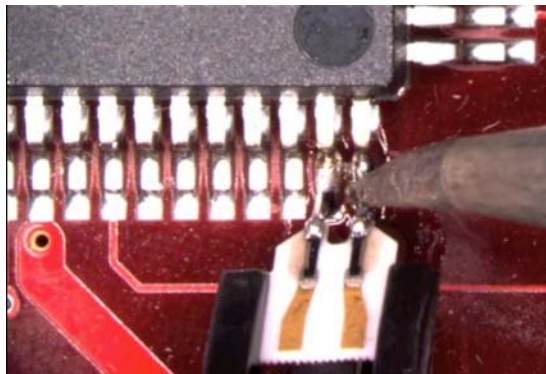

Figure 23 Soldering the ZIF Tip
- 5 Position the ZIF tip with the gold traces facing up as shown in Figure 23 and carefully re-flow the solder. This orients the tip so that it will properly mate with the probe head.